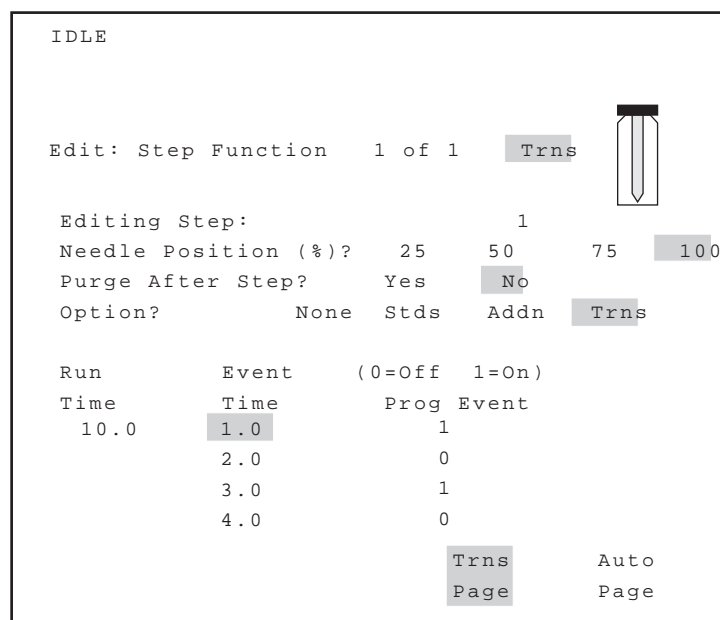

Figure 4-21 Edit: Step Function Screen
1. From the Edit: Auto Run screen (see Figure 4-10), select a step, then press **Step Function** to display the Edit: Step Function screen (Figure 4-21).